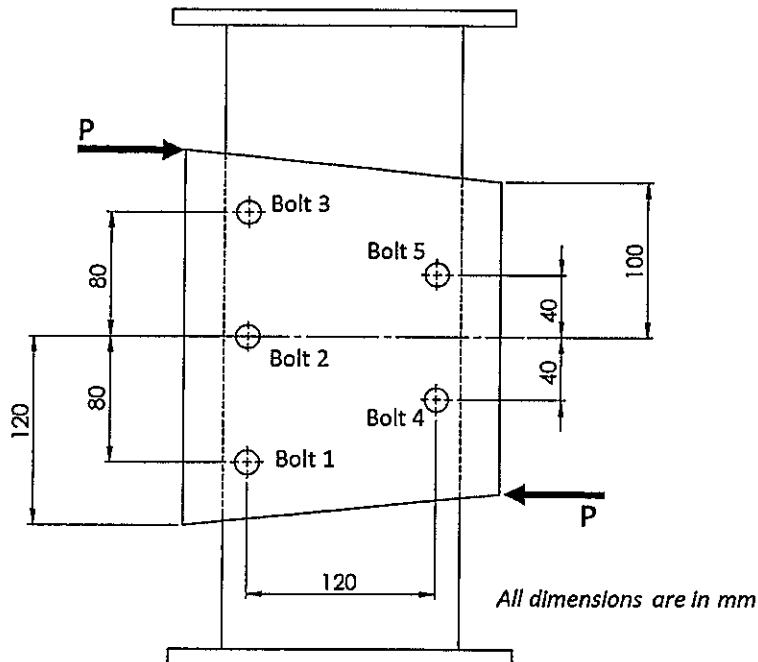

Figure 1
1. This paper contains **FOUR (4)** questions and comprises **SIX (6)** pages.
- 1(a) The plate shown in Figure 1 (not drawn to scale) is fastened to the fixed member by five 10-mm-diameter bolts. Compute the value of the loads P so that the maximum shearing stress in the bolts does not exceed 70 MPa.